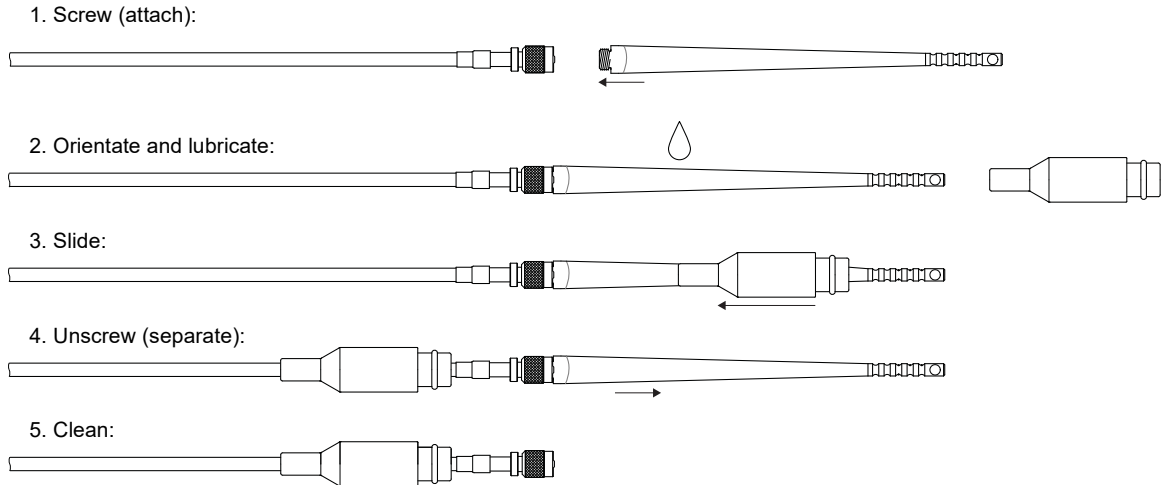

Figure 3-4: Assembling the male IP172 interconnection protector on a TQ9xx sensor's integral cable
- The male IP172 interconnection protector (refer to the IP172 data sheet) should be assembled on the TQ9xx sensor and integral cable assembly, as shown in Figure 3-4.
To assemble the male IP172 interconnection protector on the TQ9xx sensor's integral cable, see Figure 3-4 and:
- 2- Orientate the small diameter opening of the male IP172 interconnection protector with the tool. Lubricate the small diameter opening of the interconnection protector (or the tool itself) with a pea-sized amount of silicone grease, as indicated by the  symbol in Figure 3-4).